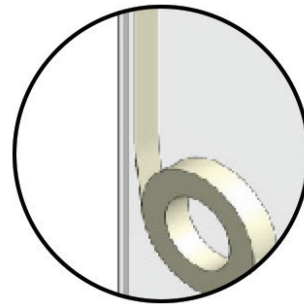

FIG 12.
- Hold glass to glass join in place with insulation/gaffa tape (**FIG 12**).